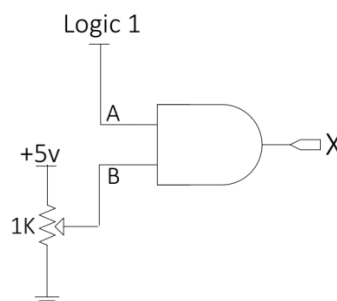

Figure 7. A simple circuit
- Connect the circuit as shown in Figure 7, and select a good V_{cc} value as in the datasheet.